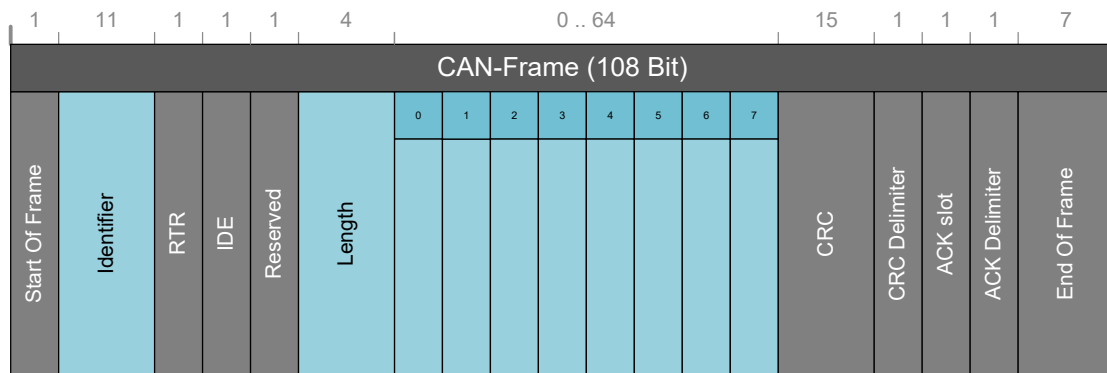

Fig. 9-1 CAN frame
Fig. 9-1 displays the content (frame) of a CAN message with the inscription of the corresponding identifiers (ID) and their length. Table 9-1 until Table 9-3 display which identifier is used for communication with the Nexa® DC1200 DC/DC converter, its length (measured in byte) and transfer rate (T). An exact description of the message contents can be found in Chapters 9.1.1 and 9.1.2.